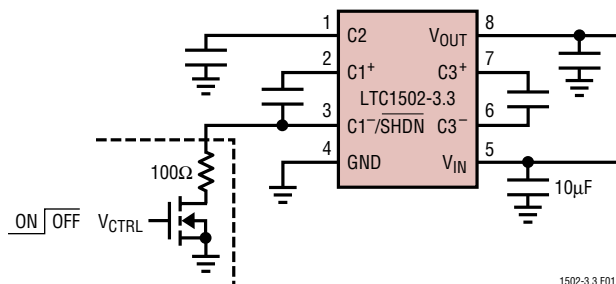

Figure 1. Pull-Down Circuitry for Shutdown
**Shutdown Waveforms (See Figure 1)**
Shutdown is implemented using an external pull-down device on the C1-/SHDN pin. The recommended external pull-down device is an open-drain FET with resistive current limiting (see Figure 1). The pull-down device must sink up to 300µA and pull down below 0.2V to ensure proper shutdown operation, however, the actual series resistance is not critical. The pull-down device must also go into a Hi-Z state for the LTC1502-3.3 to become active.